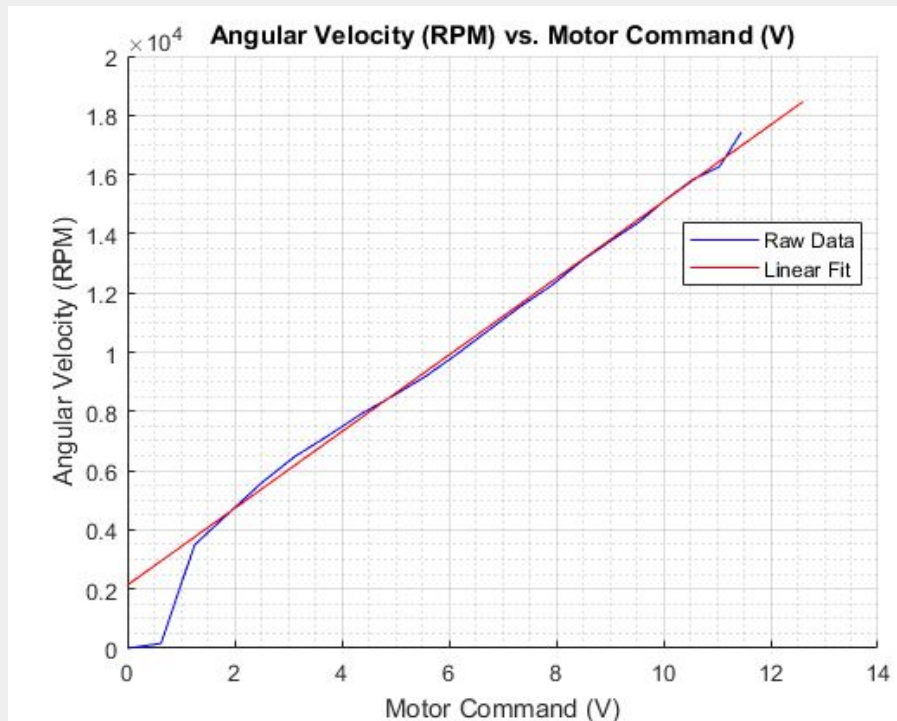

Figure 3: Motor Command (V) vs. Angular Velocity (RPM) - angular velocity of 2132.6 RPM at a 0 voltage command
Here, ω_c is an angular velocity offset in RPM and $K_{v,eff}$ is the effective motor speed constant in RPM/V. The parameters ω_c and $K_{v,eff}$ are obtained by fitting a linear polynomial (Figure 3 linear fit) to angular velocity (RPM) and voltage command (V) data collected from a test on a dynamometer (Figure 3 raw data).
which is obtained by solving equations 7 and 8 for ω_f with $V = 0$ and $F_m = 0$. This is also illustrated in Figures 3 and 4 below.